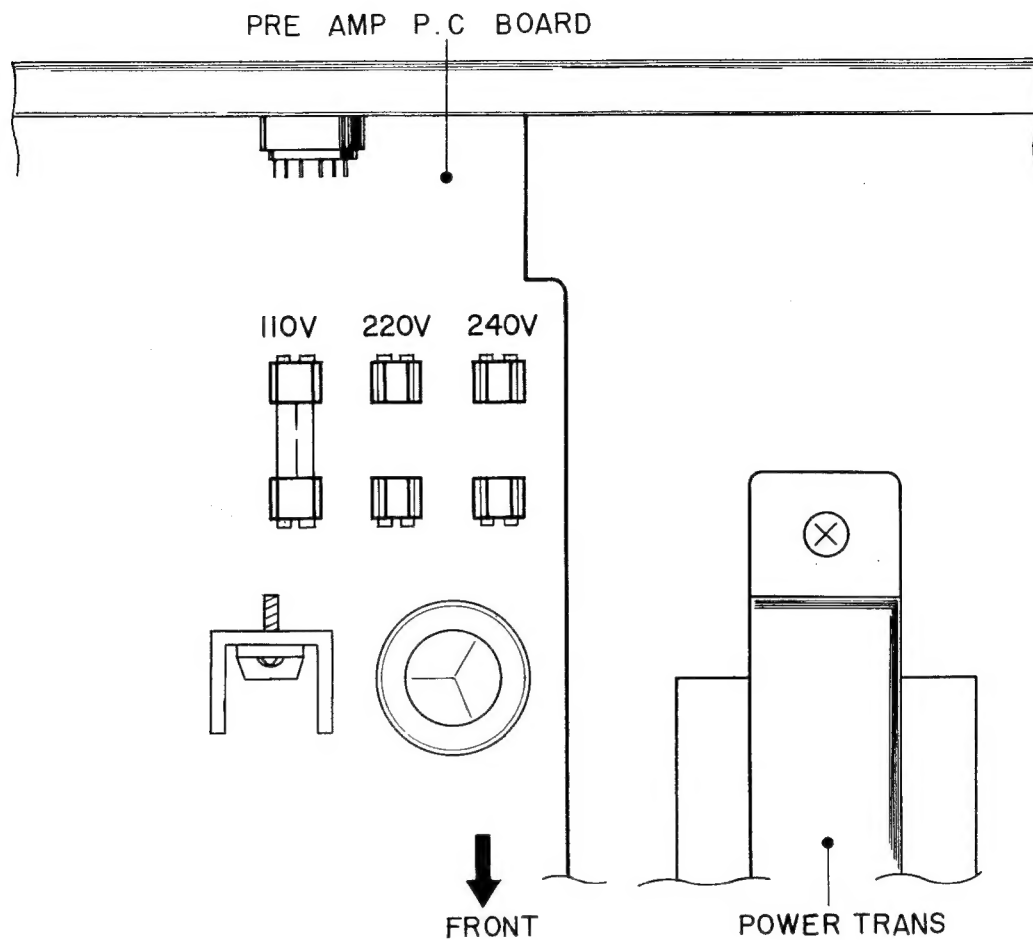

Fig. 3 Voltage Conversion (U/T Model)
1. U/T Model (Refer to Fig. 3)